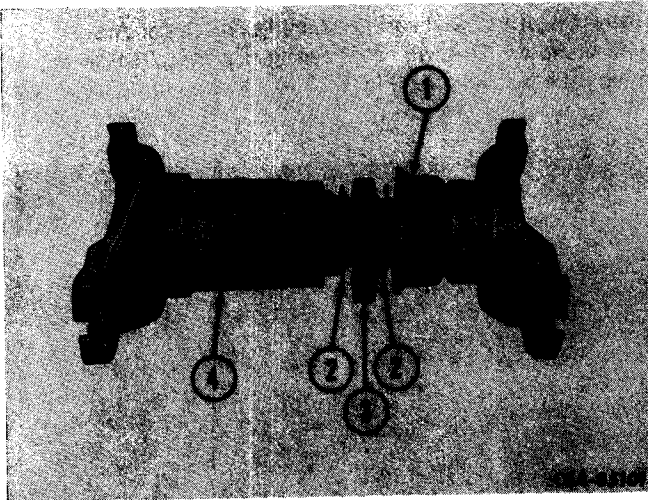

Figure 5-7
Unscrew packing retainer (1, Fig. 5-7) and slide it back on splined shaft. Remove slip yoke (4), packing retainer washers (2) and packing (3).